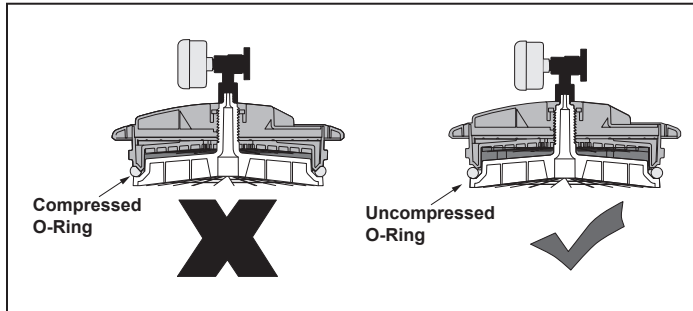

Figure 9. Ensure O-Ring is Uncompressed
1. Start with the lid completely off the filter to ensure the O-Ring is uncompressed. Fig 9